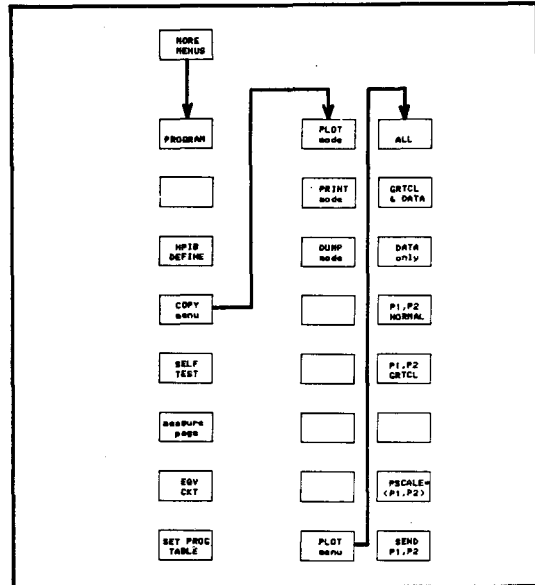

Figure 3-153. COPY and PLOT menus
3. Press the **MORE MENUS** key, and select the '**COPY menu**' softkey, the **COPY** menu will be displayed in the Menu Area of the screen as shown in Figure 3-153.
5. If a plotter is connected, select the '**PLOT mode**' softkey, and press the '**PLOT menu**' softkey. The **PLOT** menu will now be displayed as shown in Figure 3-153.